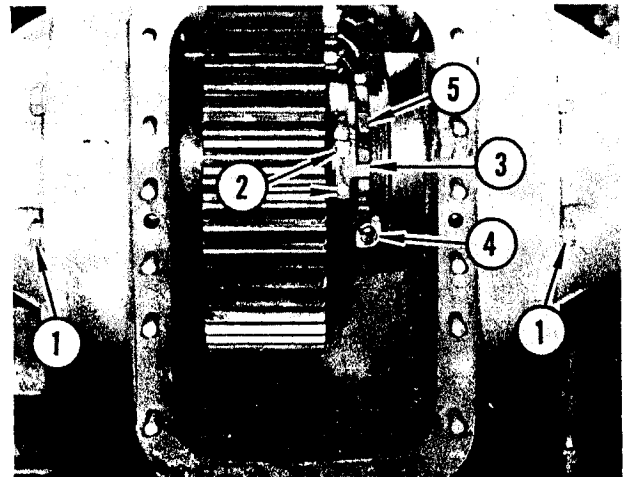

FIGURE 95. AXLE CARRIER REMOVAL
Refer to Figure 95. Remove seven capscrews and lockwashers (1) from both R.H. and L.H. outer axle carriers. Cut locking wire from the two drilled head capscrews (2). Remove capscrews and lockplate (3). Cut locking wire from clamp bolt (4). Loosen clamp bolt. Using a spanner wrench, back up adjusting nut (5) until it is against bull gear hub.